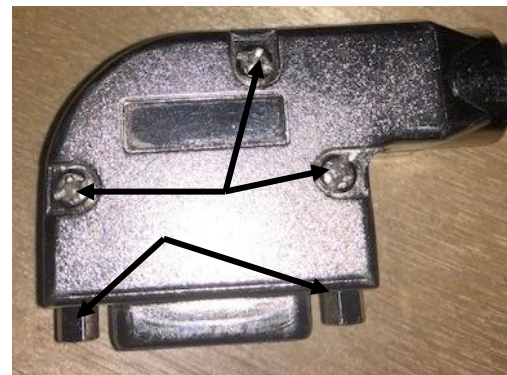

Figure 177
10. Note: To check the wires at the display connector it will be necessary to take the connector apart. Figure 177
13. To disassemble the connection, remove the three screws to remove the cap and the two nuts on the front of the connection. Figure 177